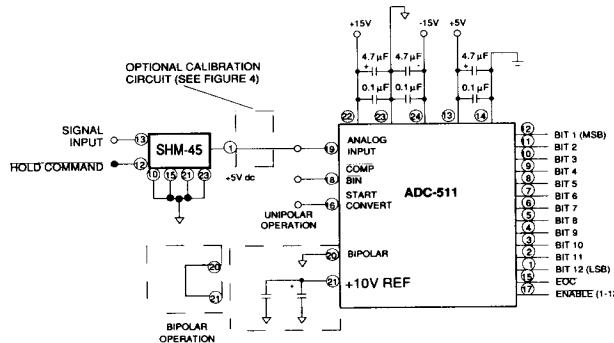

Figure 2. Typical Input Connections for the ADC-511
1. Applications unaffected by endpoint errors or those that remove them through software will use the typical connections shown in Figure 2. The optional external circuitry of Figure 4 removes system errors or helps adjust the small initial errors of the ADC-511 to zero. The external adjustment circuit has no affect on the throughput rate. Table 1 shows how to select the input range.
1. The data outputs should be connected to LED's to observe the resulting data values. Connect the converter per Figure 2, Figure 4, and Table 1 for the appropriate Full Scale Range (FSR). Apply a pulse of 200 nanoseconds minimum to the START CONVERT input (pin 16) at a rate of 250 KHz. This rate is chosen to reduce flicker if LED's are used on the outputs for calibration purposes.